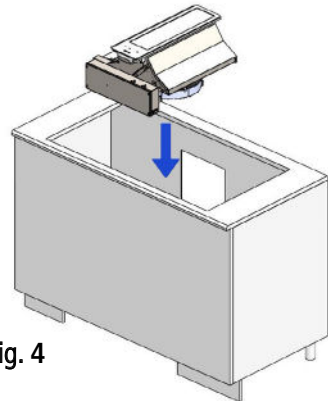

Fig. 4
3. Fit the product in the opening, by inserting it from above as shown Fig.4.